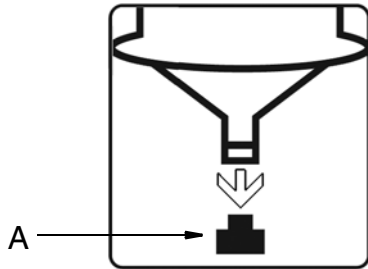

FIG. 11
1. Remove lubrication plug (A) (FIG. 11).